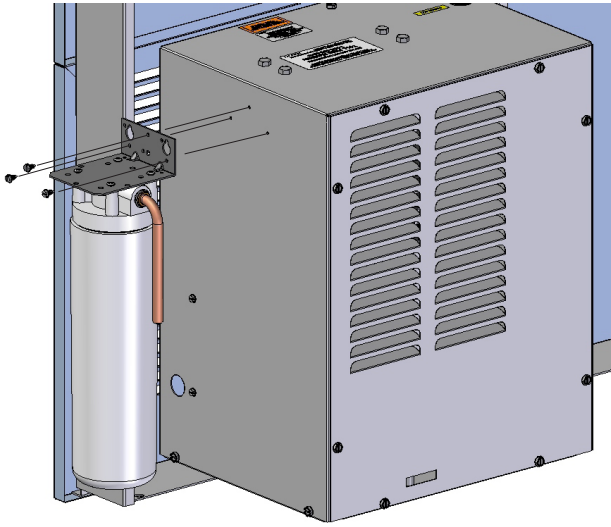

Figure 4 – LZWS-ERFP8-RF Filter Mounting
4. **(For LZWS-ERFP8-RF)** If an existing filter is not present, install filter bracket on chiller (Fig 4), then install the filter head to the bracket, plumb from the filter outlet to the chiller inlet with $\frac{1}{4}$ " poly tubing and $\frac{1}{4}$ x $\frac{1}{4}$ union, install filter.